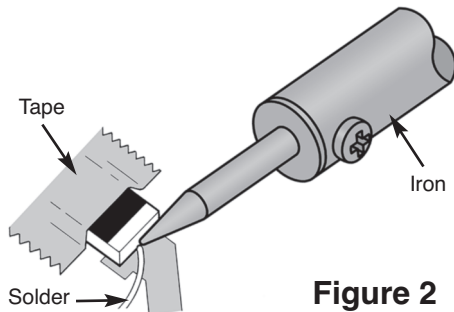

Figure 2
1. Using tweezers, place the surface mount component on the PC board pads and secure in place with tape (see Figure 2).